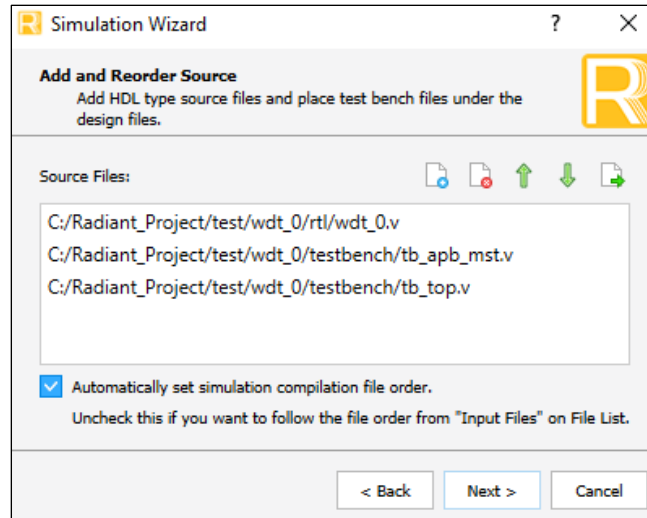

Figure 7.5. Add and Reorder Source
2. Click **Next** to open the **Add and Reorder Source** window, as shown in Figure 7.5. Confirm that the **Source Files** are as shown in Figure 7.5. Remove other files if there are any.
Designing with the IP	- Updated the Add and Reorder Source step in the Running Functional Simulation section. - Updated the Figure 7.5. Add and Reorder Source caption.